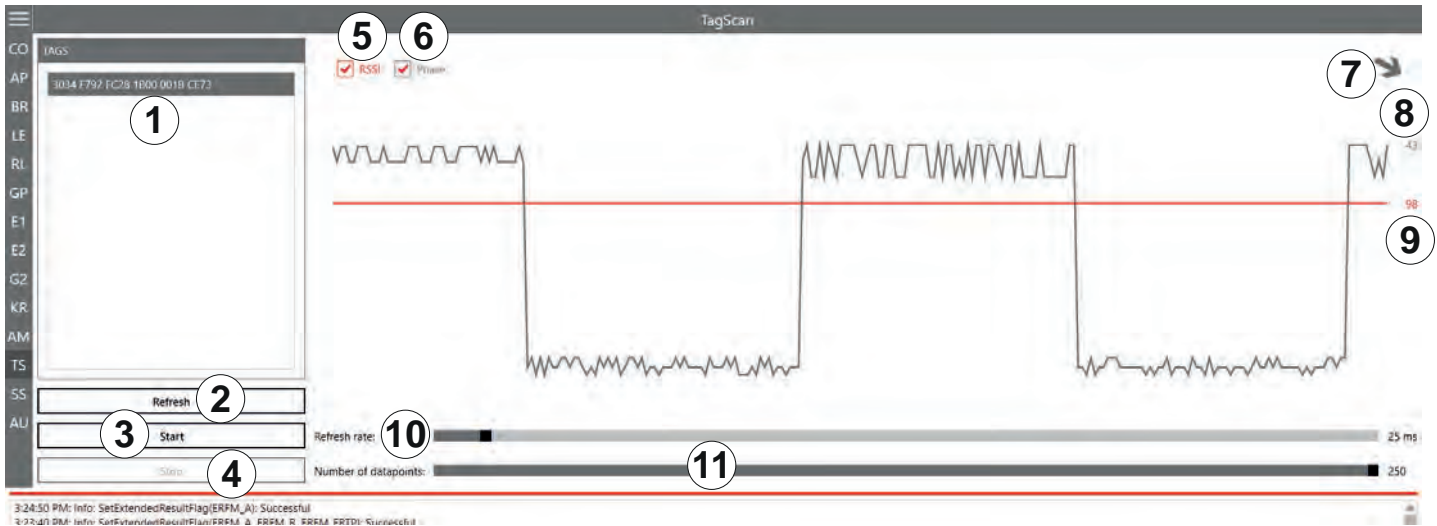

Fig. 87: TagScan: Phase shift (due to the channel change), transponder is not moved
5. At *Hardware key* (③ in Fig. 87), enter the hardware key shown in *AppManager* (Step 3 in 16.11.3).
3. Activate the *Demo* box (①).
⇒ The *Product key* field receives the *demo* entry and is deactivated (cf. ② in Fig. 87). The hardware key is shows